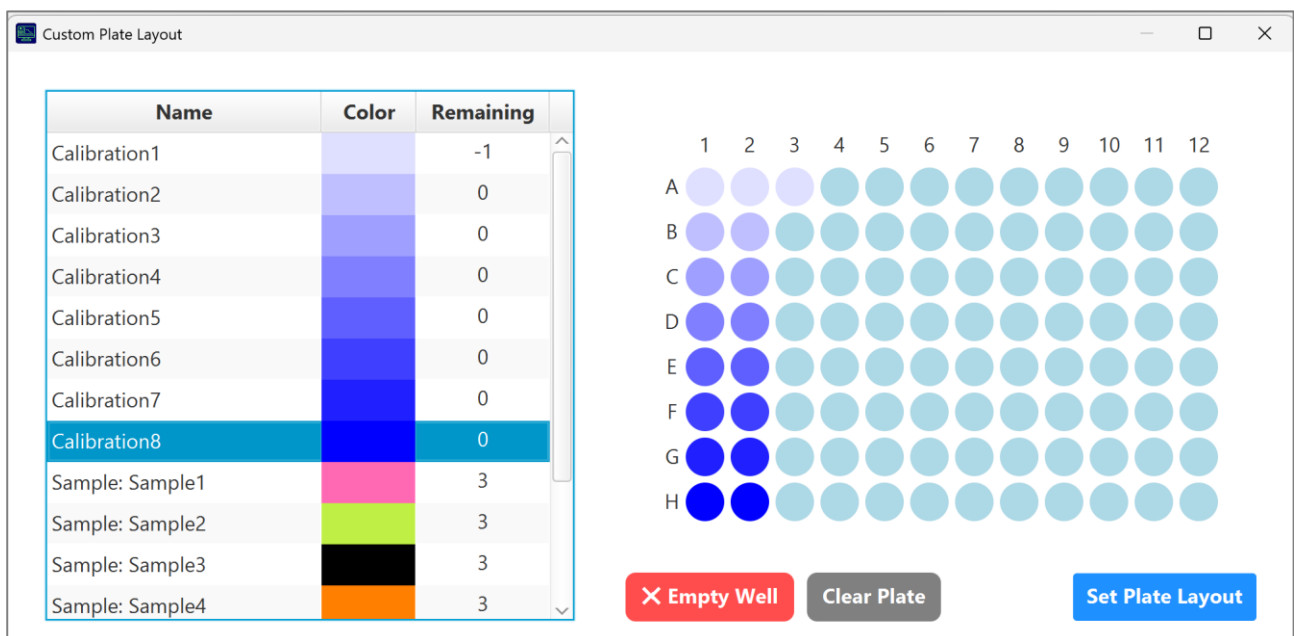

Figure 16. Menu for creating a custom plate layout
- The plate layout can also be created manually using the *Custom* button. This opens a separate window (see Figure 16). In the table on the left, select the desired sample and assign a single well to it by clicking, or multiple wells by clicking and dragging. Incorrectly assigned samples can be removed in the same way by activating the *EMPTY* button. Alternatively, all replicates of a sample can be dragged and dropped onto the